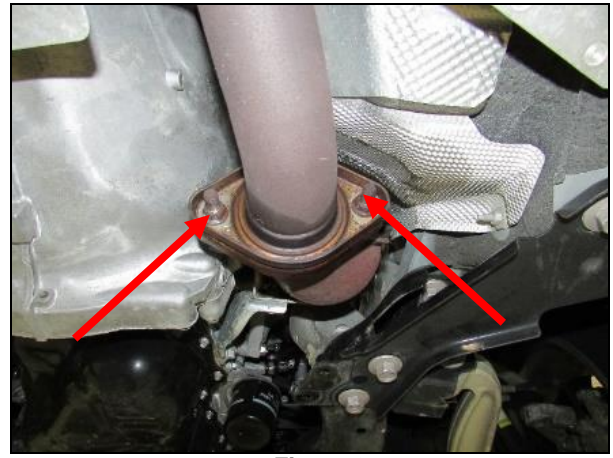

Figure 2
4. Remove the (x2) 14mm head nuts at the OEM exhaust manifold flange (**Figure 2**).